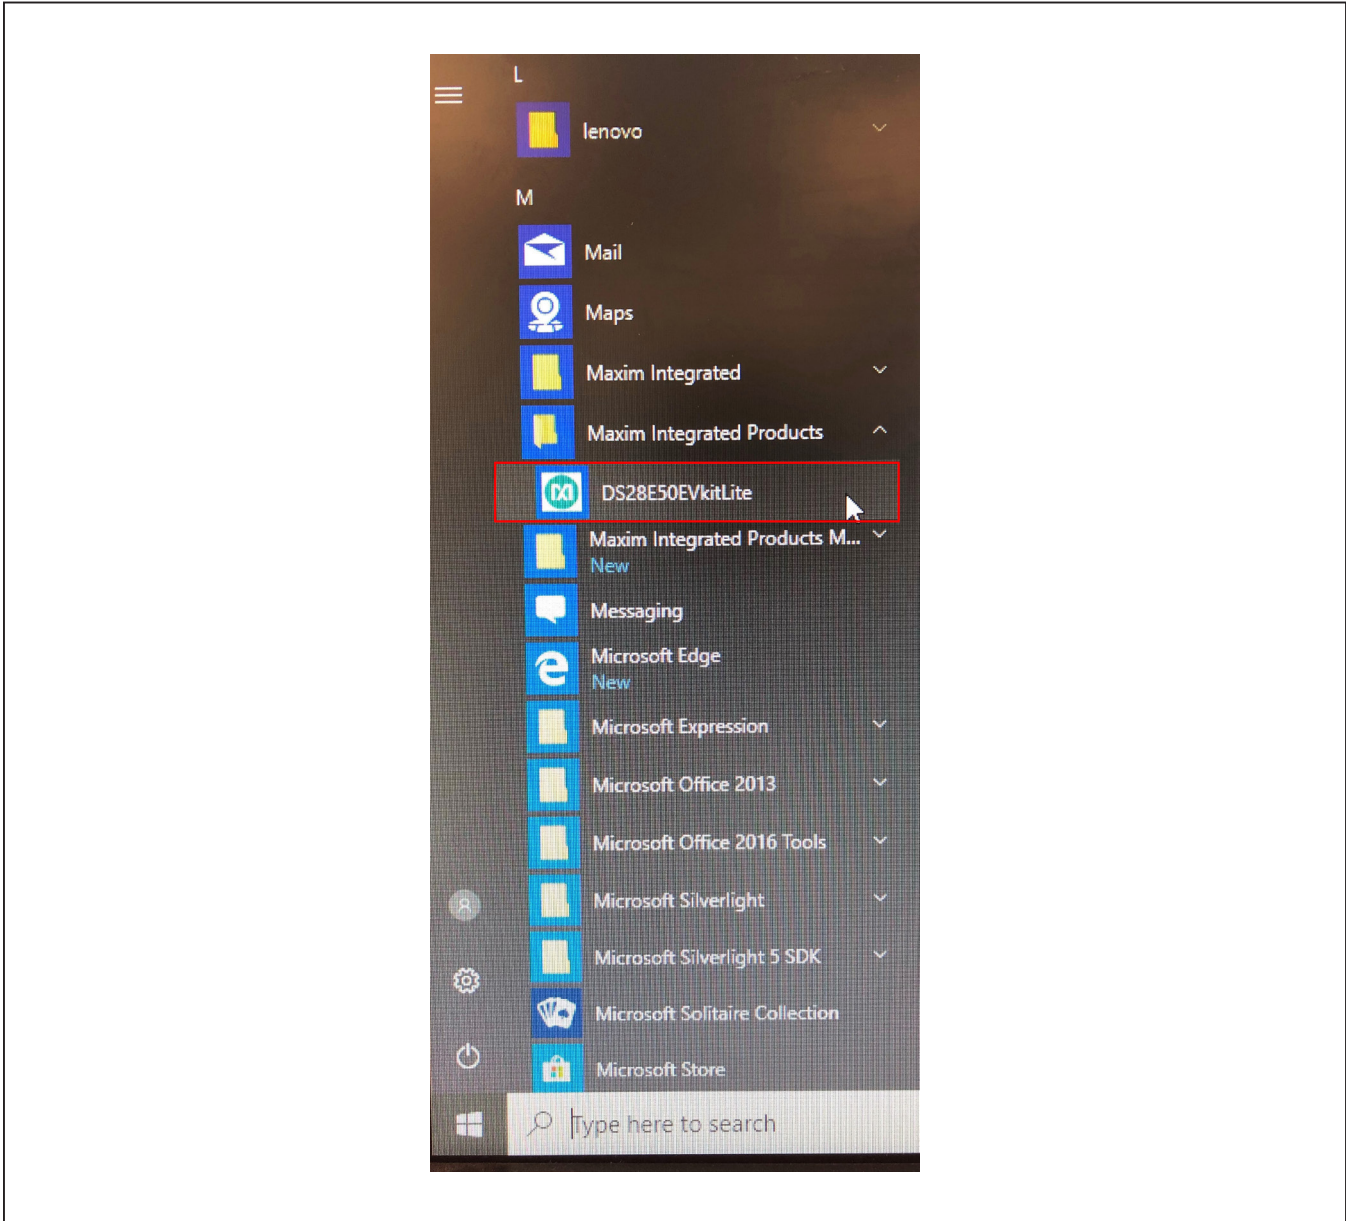

Figure 7. DS28E50 EV Kit Lite Software Program File in Windows Start in the Maxim Integrated Products Folder.
- 7) Go to the **Windows Start** menu and click on **DS28E50EVkitLite** under the **Maxim Integrated Products** folder to launch the DS28E50 EV Kit program (Figure 7).